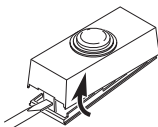
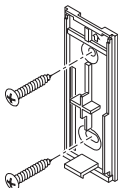

Figure 1
Figure 4
- 1. Remove orange battery tab from push button.** Remove back of case by pushing in tab on bottom with a small screwdriver (see Figure 1). Remove orange battery tab.
- **Screw Mounting:** To mount with screws, remove back of case by pushing in tab on bottom with a small screwdriver (see Figure 1). *Note:* Remove material in screw holes (if needed) before mounting with screws. Attach back of case to door jamb or wall (see Figure 4). Snap front of push button on.